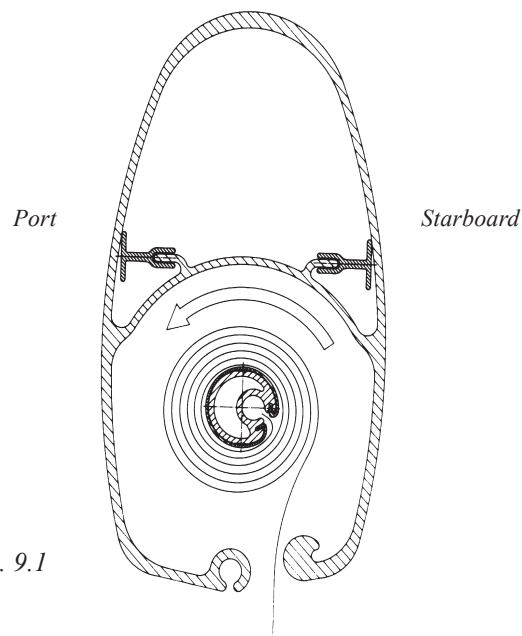

Fig. 9.1
7. Furl the sail until the clew is exposed. The luff extrusion is asymmetrical to facilitate rolling in one direction, and the sail should always be rolled onto the starboard side of the luff extrusion. The reefing winch should be turned clockwise. See fig. 9.1.
1. Check that the sail is correctly furled on the luff extrusion: i.e. to its starboard side. (See fig. 9.1).